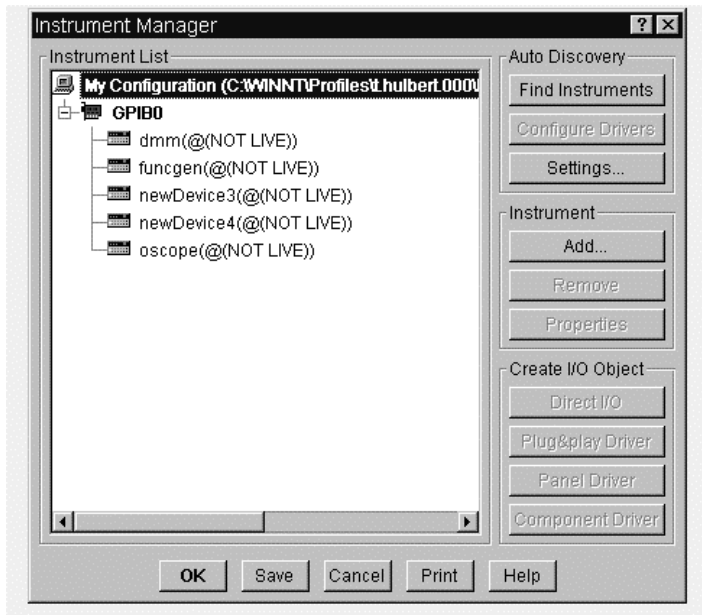

Figure 3.1. The Instrument Manager box
2. Select Menu Bar => I/O => Instrument Manager... ; see Figure 3.1.